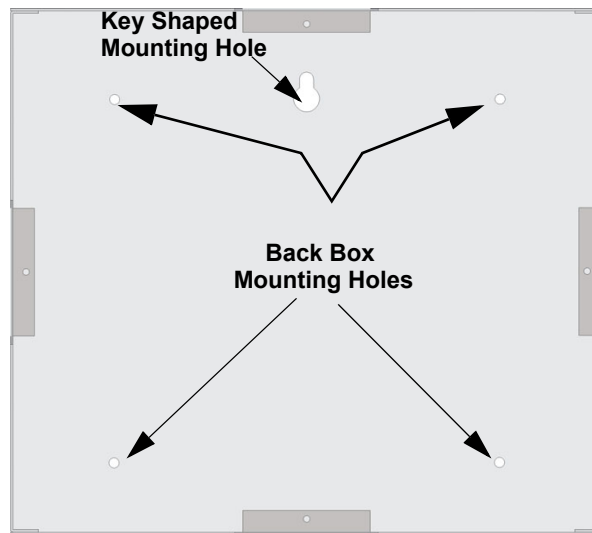

Figure 4.13 Back Box Surface Mount Holes
2. To properly mount the back box, insert a single screw into the key shaped mounting hole. Do not tighten all the way. See Figure 4.13. Place a level on top of the back box, with the back box level insert the rest of the mounting screws.
2. To properly mount the back box, insert a single screw into the key shaped mounting hole. Do not tighten all the way. See Figure 4.13.